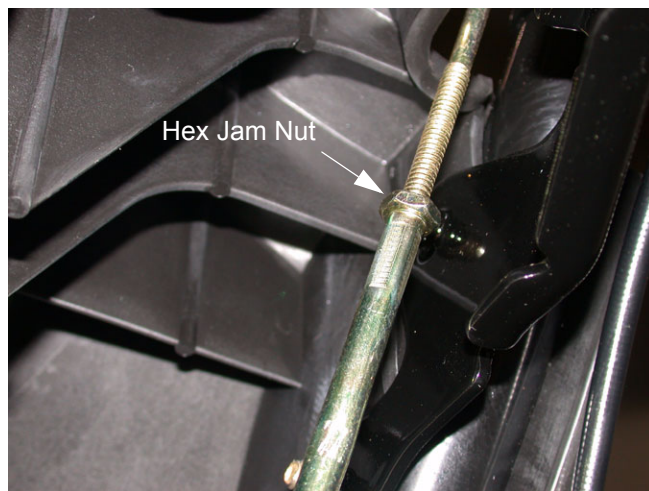

Figure 8
- 5.4. Loosen the hex jam nut on the auger control cable "Z" fitting and rotate the coupling end of the cable downward to provide more slack or upward to take up slack. See Figure 8.